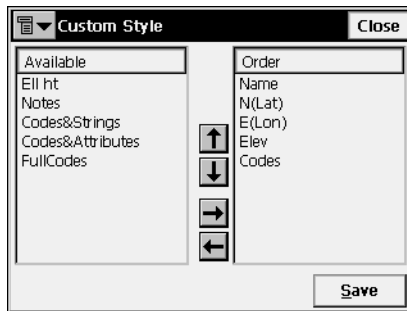

Figure 5-22. Custom Style
To create a new file format, enter the order of data using the *Custom Style* screen (Figure 5-22).
4. Tap **Save** (Figure 5-22). The combination will display in the *Select File Format* drop-down list on the *Text File Format* screen.